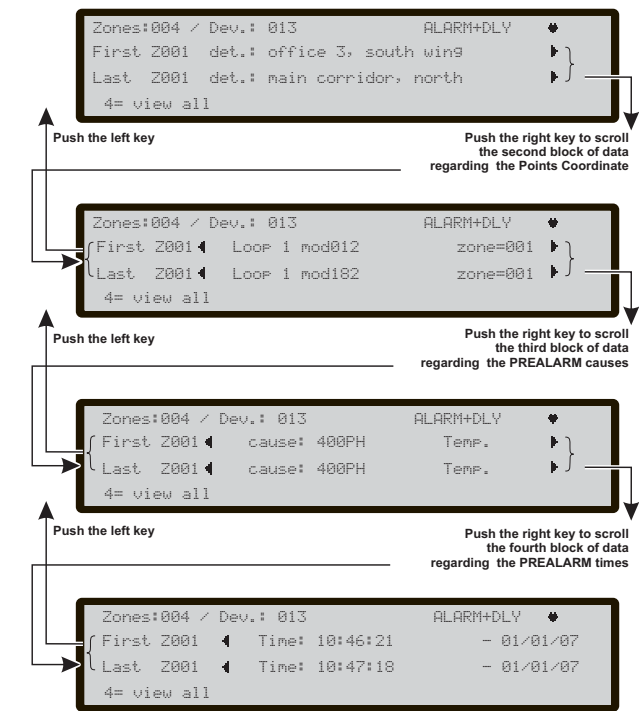

Figure 10 Prealarm status- Scrolling Right key
- The RIGHT Key to display the next auxiliary information about the point (see Figure 10);